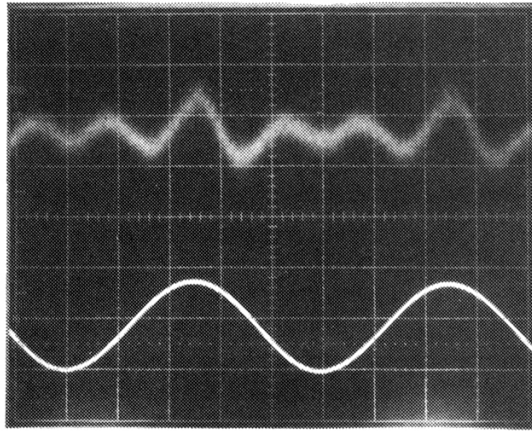

Fig. D-1: 100HZ DISTORTION RESIDUAL, LIN RELEASE
- b) Set the oscillator frequency to 100Hz, and advance the oscillator output level until the 424A G/R meter reads 20dB G/R. Measure the THD at the 424A output, and verify that it is less than 0.05%. Observe the distortion output from the THD analyzer on a scope, and verify that the distortion residual looks like Fig. D-1. Suppress the oscillator output, and verify that the time required for the G/R meter to move from 20dB to 10dB G/R is 2.0seconds, \pm 0.5seconds.